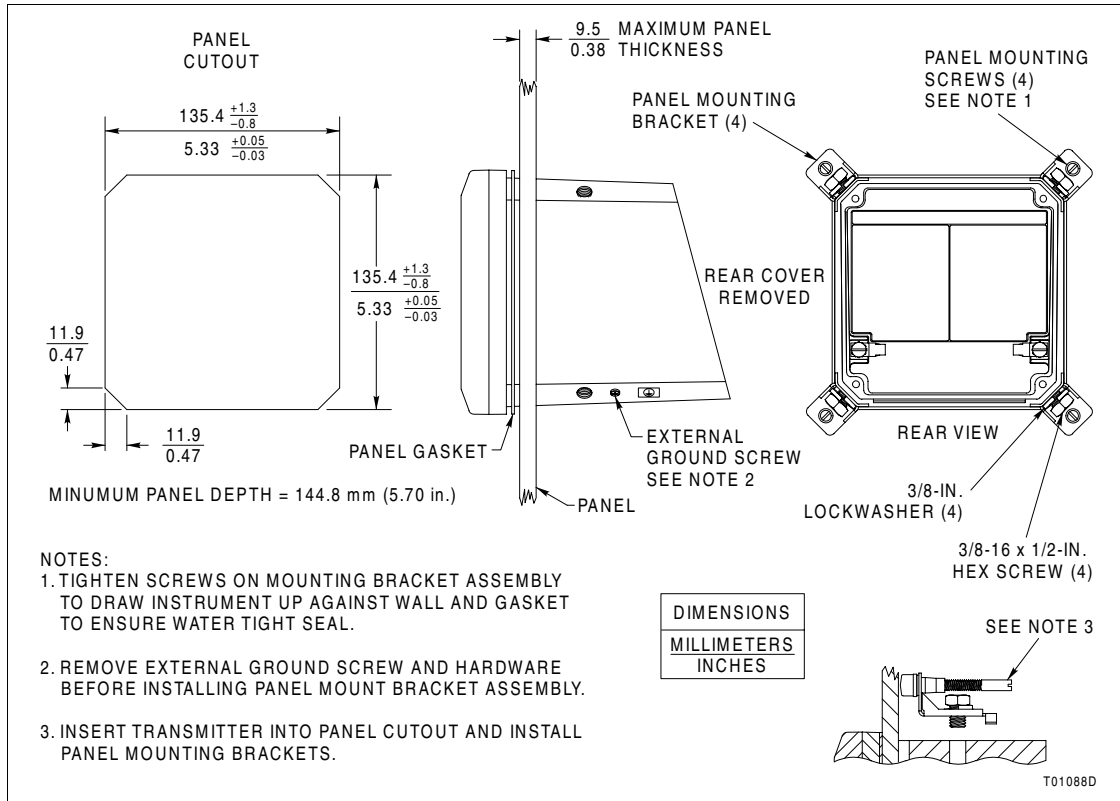

Figure PR2-1. Panel Mounting
The panel mounting kit contains four panel mounting bracket assemblies and a panel gasket. The transmitter enclosure conforms to DIN sizing. Figure PR2-1 shows the required panel cutout, maximum panel thickness, and minimum panel depth.
2. Use suitable tools (dependent on installation) to make a 135.4 (+1.3, -0.8) by 135.4 (+1.3, -0.8) mm (5.33 (+0.05, -0.03) by 5.33 (+0.05, -0.03)) in. cutout with diagonal corners as shown in Figure PR2-1.